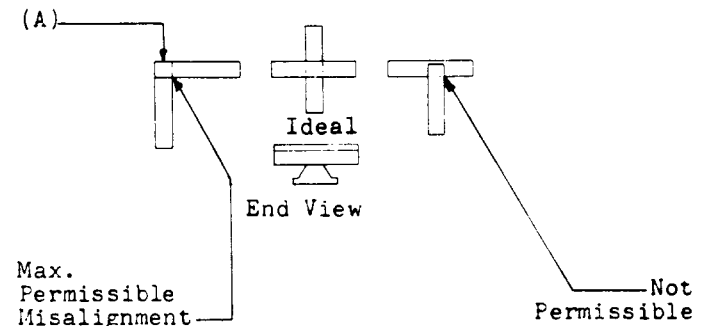

Fig. 1 - Alignment of Standard Contacts - Plan View of Contact Surfaces
(a) Fig. 1 (A): On all keys equipped with standard contacts the contacts shall line up so that the width on the contact surface of each contact bar falls wholly within the length of its mating bar. Gauge by eye.